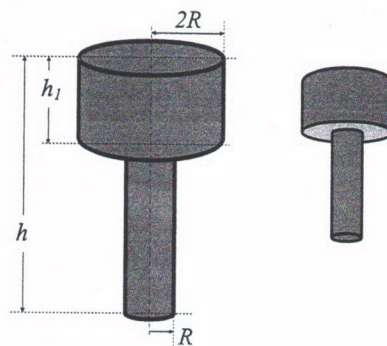

Figure 4.71
21. In terms of the dimensions shown in Figure 4.71, what is the pressure on the bottom surface of the container (area = πR^2)? What is the pressure on the ledge-surface in Figure 4.71? Check whether all of the force due to gravity on the liquid in the container is accounted for by the pressure on these two surfaces.